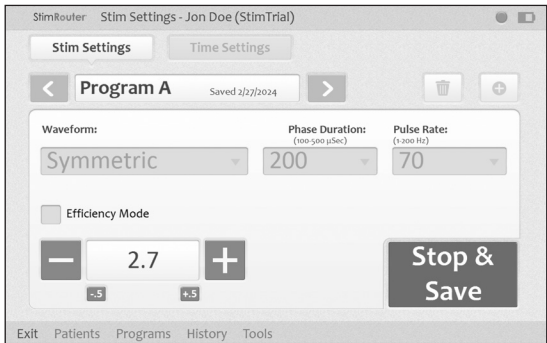

Figure 8-10: Press "Stop & Save" to stop testing and save the current stimulation settings.
6. Press the "Stop & Save" button to stop stimulation and save the stimulation settings to the Clinician's Programmer, Patient Programmer and External Stimulator. **See Figure 8-10.**